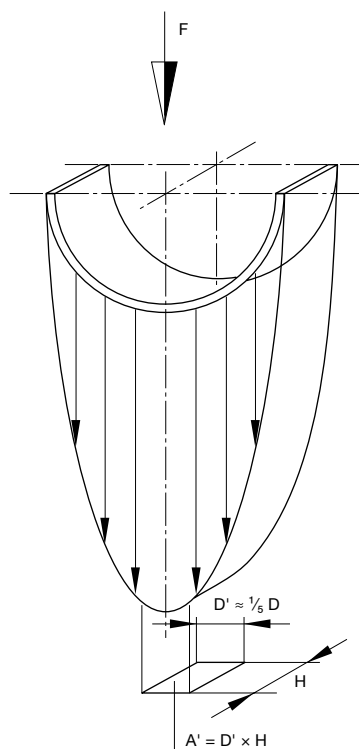

Fig. 6.1 Pressure distribution on bearing area
These lateral forces (F) lead to a pressure distribution as shown in fig. 6.1. In practice, calculation based on the projected surface has proved to be a simple and more useful method. This means that the load carrying area (A) can be calculated from the length (H) multiplied by the diameter (D) (see fig. 6.2). The surface obtained is about 5 times larger than the assumed bearing area of fig. 6.1, so that lower specific loads must be reckoned with. In order to obtain the same values for lateral forces " F ", the specific load must be only of the max. force shown in fig. 6.1. The indicated permissible specific forces ($F_{perm.}$) take this into account, and the admissible specific pressure mentioned relates to the projected area as shown in fig. 6.2.